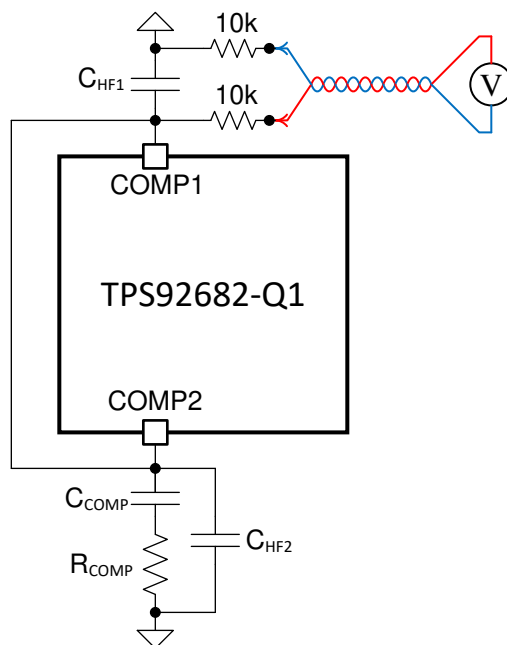

Figure 7-13. Current Sharing Calibration Setup
- Set CH2GOFF = 1 and CH1GOFF = 0 in Table 7-40. This setting turns off channel-2. Measure the COMP voltage as shown in Figure 7-13 and record the measurement as V_{COMP1} .